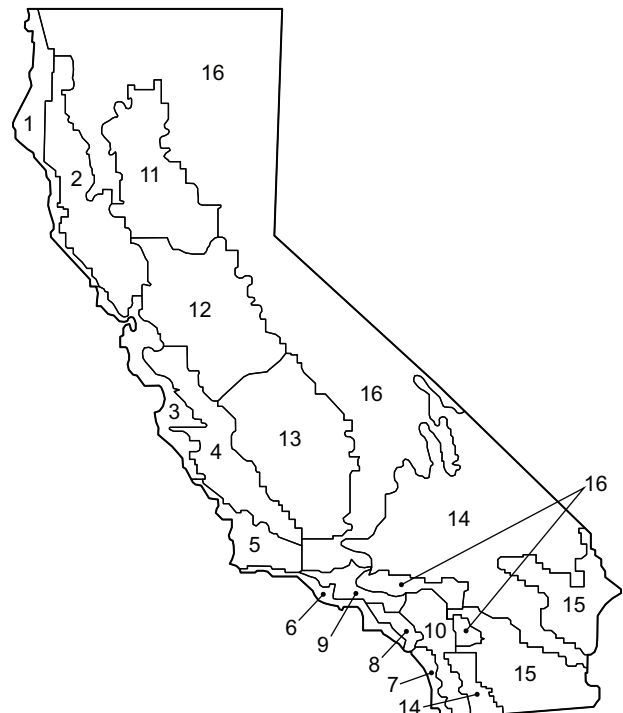

Fig. 80 – California Title 24 Zones
b. See Fig. 80 for map of California Title 24 zones.